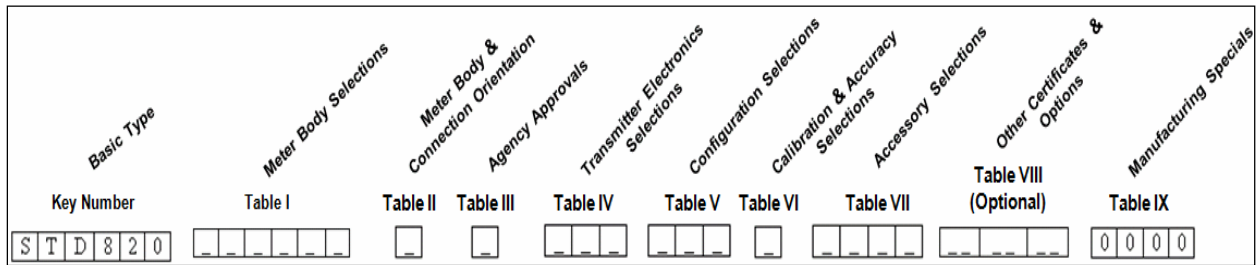

Figure 3 –Typical ST 800 Name Plate
The Transmitter nameplate mounted on the bottom of the electronics housing (see Figure 1) lists its model number, physical configuration, electronics options, accessories, certifications, and manufacturing specialties. Figure 3 is an example of a typical Gauge Pressure (GP) or Atmospheric Pressure (AP) Transmitter name plate. The model number format consists of a Key Number with several table selections. The Differential Pressure (DP), Absolute Pressure (AP), and Gauge Pressure (GP) name plates are essentially the same. However, the DP provides one additional entry (7 vs. 6) in the Display Body Selections (Table I) to accommodate the static pressure rating.